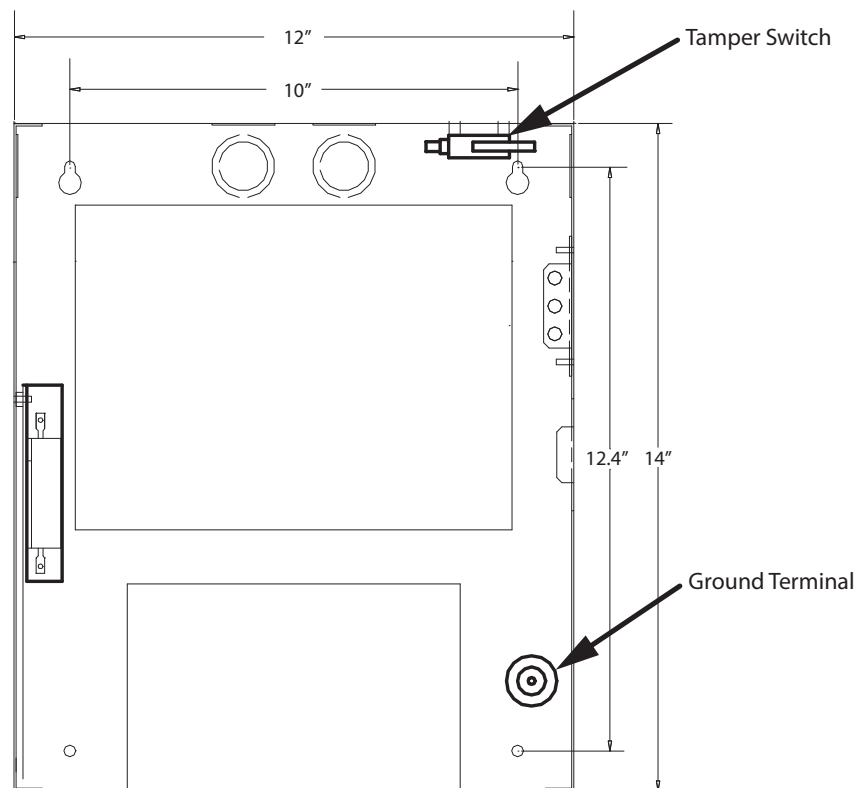
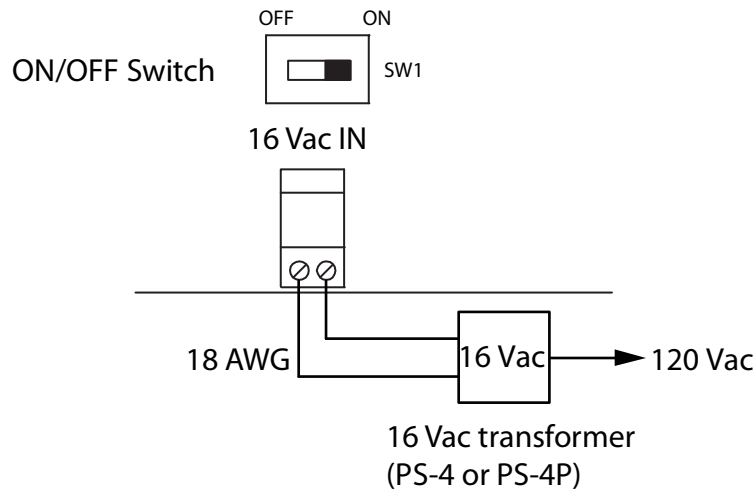

Figure 5. Controller Back Cover Dimensions and Optional Component Location
Figure 8. Power Supply
The Aperio Door Controller surface mounts with four screws as shown in Figure 5. The back cover is 12 inches wide by 14 inches long. The top two mounting holes are 10 inches apart.
The Aperio Door Controller enclosure mounts directly on the wall to the wall stud using the mounting screws locations as shown in Figure 5.
2. Using the controller back cover as a template, mark the top two mounting hole locations 10" apart as shown in Figure 5.
The tamper switch is located at the top right corner of the back cover shown in Figure 5. Connect the tamper switch wire to one of the general purpose input and then correlate the opening of the cover to a specific output (action). For a complete description of correlations, see section 3.8, Correlations, on page 85.
The power supply connection is situated at the bottom right of the main controller board and receives 16 VAC, 40 VA. Use 18 AWG wiring. An external PS-4 or PS-4P plug-in transformer connects to the power terminals. Refer to Figure 5 and Figure 8.